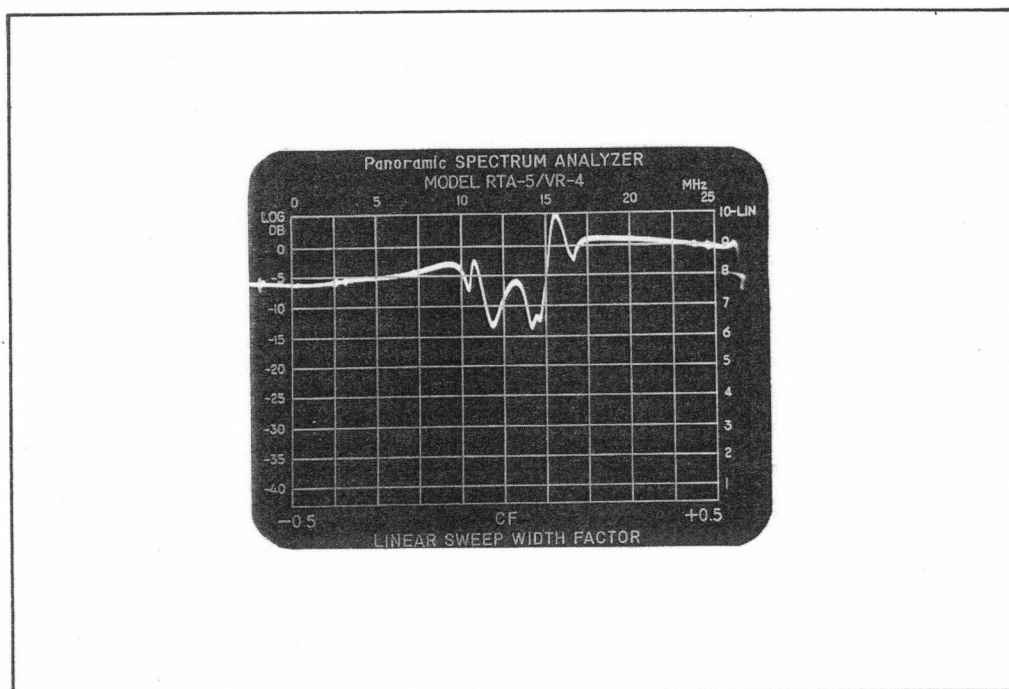

Figure 2-3. Peaking of Zero Pip in Search/Lock Mode During Mixer Balancing
q. Set the SWEEP RANGE switch to SEARCH/LOCK and adjust the red SEARCH/LOCK control to obtain a display similar to that shown in figure 2-3. Fine tune the control for maximum amplitude of the display.